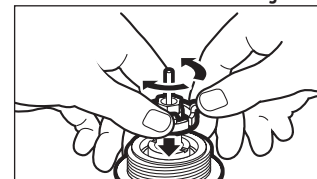

Figure 6e
6. Spread the retainer clip with your thumbs and push the retainer into the adapter until it clicks (see Fig. 6e).